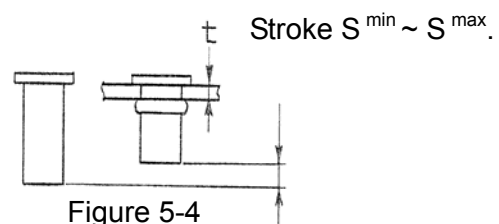

Figure 5-4
c) Set a POP Nut using work piece or the test piece, and check that the stroke is between S^{\min} and S^{\max} . Re-adjust the stroke as necessary. (Figure 5-4)